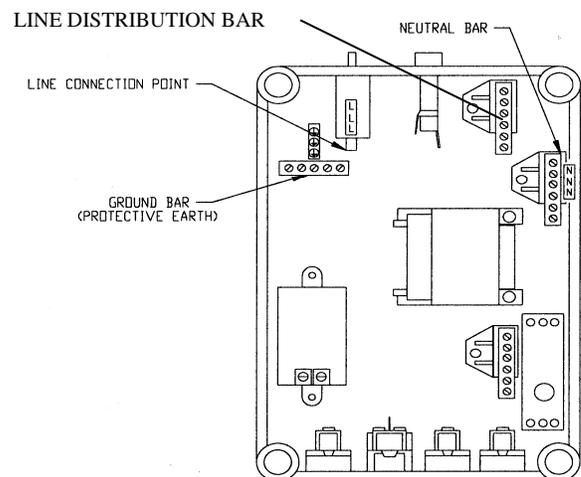

Fig. 10
- c. Connect the line wire to the line distribution bar located in the upper right corner of the tub's electrical box. It will have only black wires connected to it. See figure 10.